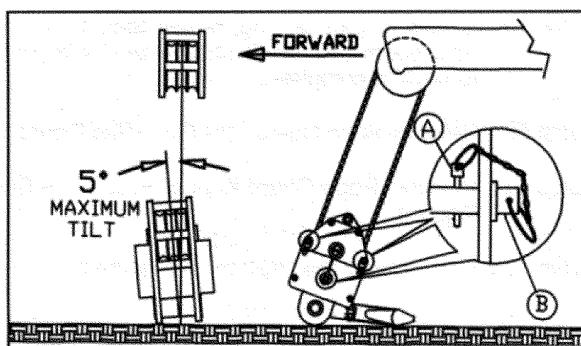

Figure 1
- Step 3. Place "Quick Reeve" block in the folded position in line and forward of the boom as illustrated in Figure 1.
- Step 4. Remove Rope Guard Keeper Pins at (A). – See Figure 1.
- Step 5. Retract Rope Guard Pins (B) – See Figure 1.
- Step 11. Reinstall Rope Guard Pins (B) – See Figure 1. Note: OSHA invokes ASME B 30.5, which requires "The sheaves in the lower load block shall be equipped with close-fitting guards that will prevent ropes from becoming fouled when the block is lying on the ground with loose ropes."
- Step 12. Reinstall Rope Guard Keeper PINS (A) – See Figure 1.
- Step 7. Remove Rope Guard Keeper Pins (A). – See Figure 1.
- Step 8. Retract Rope Guard Keeper Pins (B). – See Figure 1.
- Step 13. Reinstall Rope Guard Pins (B). – See Figure 1.
- Step 14. Reinstall Rope Guard Keeper Pins (A). – See Figure 1.